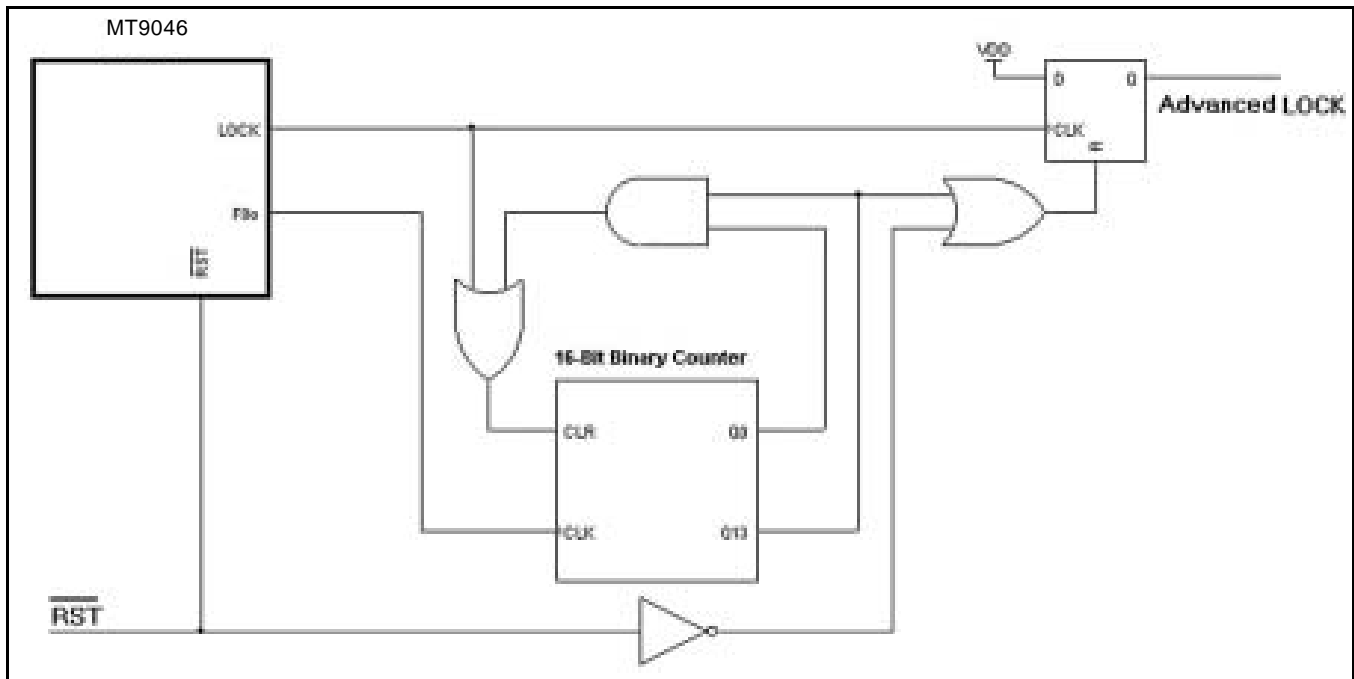

Figure 12 - Digital Lock Pin Circuit
A digital alternative to the RC-time-constant circuit is presented in Figure 12. The circuit in Figure 12 can be used to generate a steady lock signal. The circuit monitors the MT9046's LOCK pin, as long as it detects a positive pulse every 1.024 seconds or less, the Advanced Lock output will remain high. If no positive pulse is detected on the LOCK output within 1.024 seconds, the Advanced LOCK output will go low.
* See Figure 12.